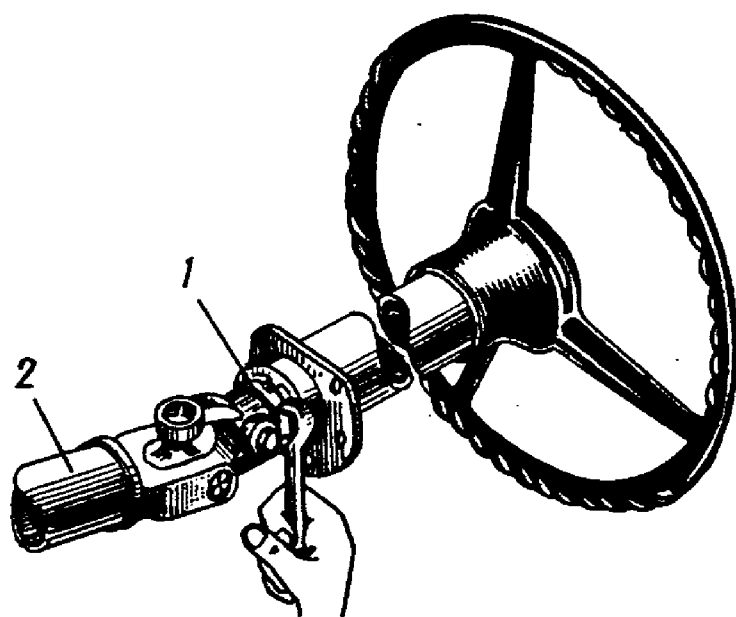

FIG.14. STEERING WHEEL END PLAY ADJUSTMENT
32. Check the steering wheel for end play (clearance) and tighten nut 1 (Fig.14), if needed.